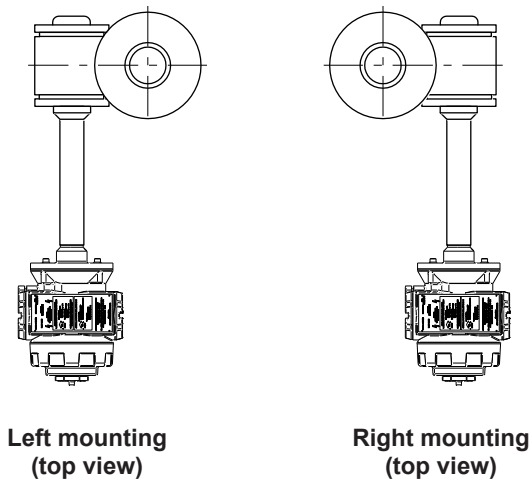

Figure 7
4.2.2.3 Instrument case mounting (Figure 7)